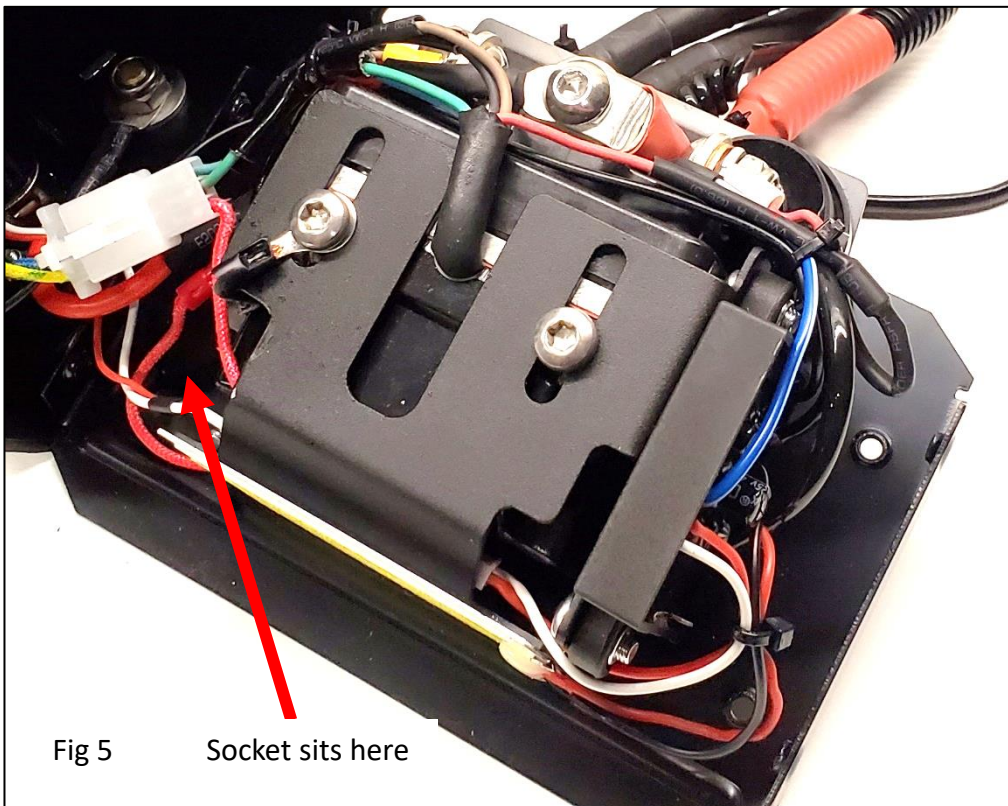

Fig 5
**Note:** Make sure the white quick connect socket goes into the area at the corner of the ISM. Fig 5